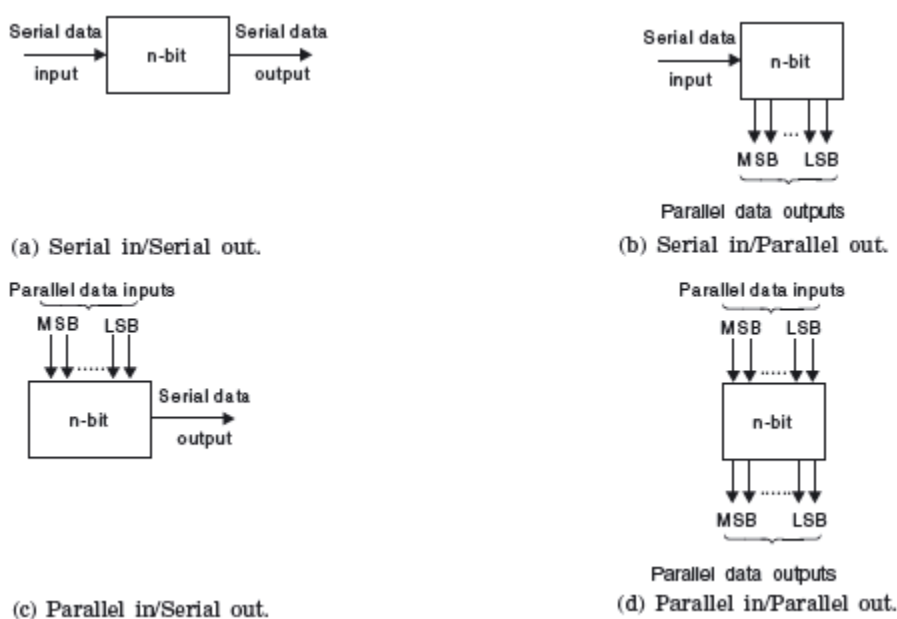

Figure: 9.1: Shift register types
- Serial shifting: Data-bits are shifted one after the other in a serial fashion with one bit shifted at each clock transition (Figure: 9.1).